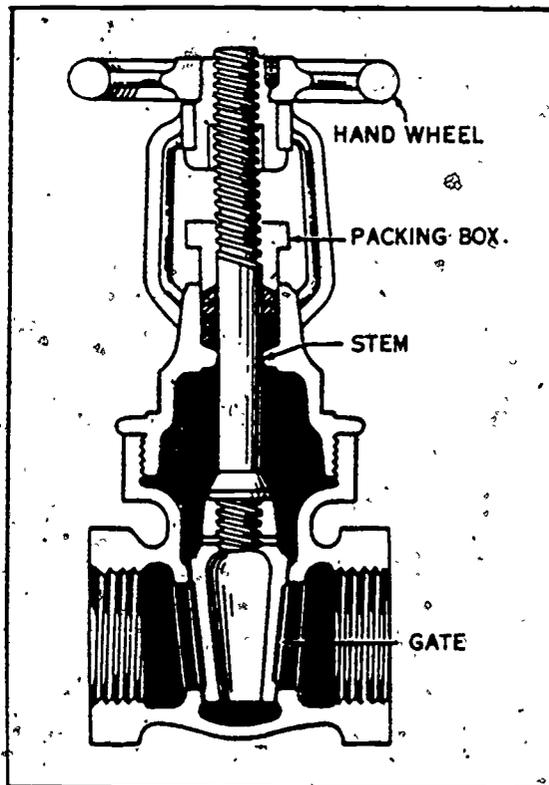

Figure 1-36 Rising stem gate valve.
**Gate valves.** A gate valve is one of the most used valves in a plumbing system. This valve is used either to shut off or regulate air or liquid systems. A diagram of a gate valve is shown in figure 1-34. Gate valves are designed in many different types, but they all work on the same principle. The two most commonly used gate valves are illustrated in figure 1-35 and 1-36. As you can see in the illustrations, the valve in figure 1-35 is one with a nonrising stem, whereas the valve in figure 1-36 is designed with a rising stem.